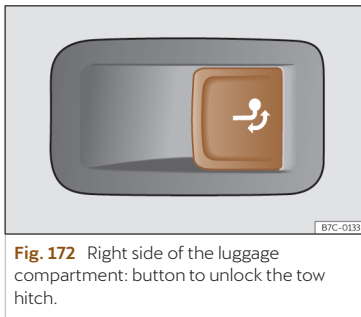

Fig. 172 Right side of the luggage compartment: button to unlock the tow hitch.
- Pull the >>> **Fig. 172** button briefly. The tow hook unlocks electrically and automatically turns outwards. The button's control lamp flashes.
- Pull the >>> **Fig. 172** button briefly. The tow hook unlocks electrically.
- Never press the button >>> Fig. 172 when there is a trailer hooked to the vehicle or when a carrier system or other accessories are mounted on the tow hook.